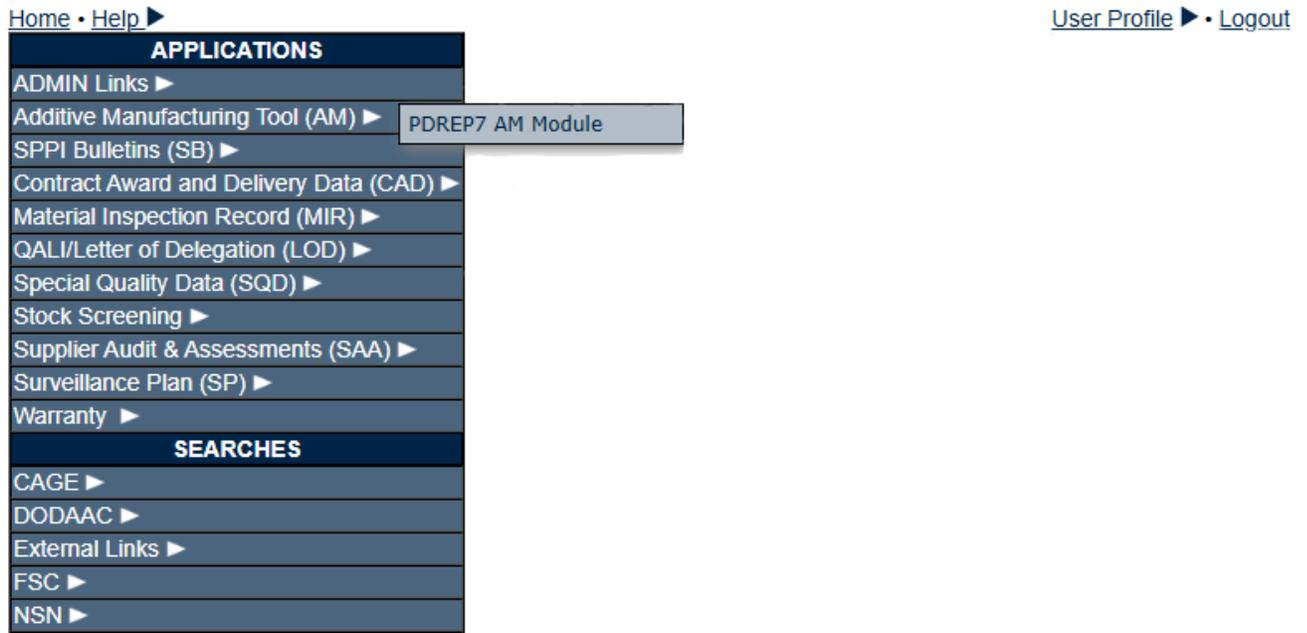

Figure 2.1
- A. Once the user has logged in, hover over the 'Additive Manufacturing (AM)' link on the left side of the PDREP Main Menu (see **Figure 2.1**). Upon hovering over the link, the AM fly-out menu will appear.